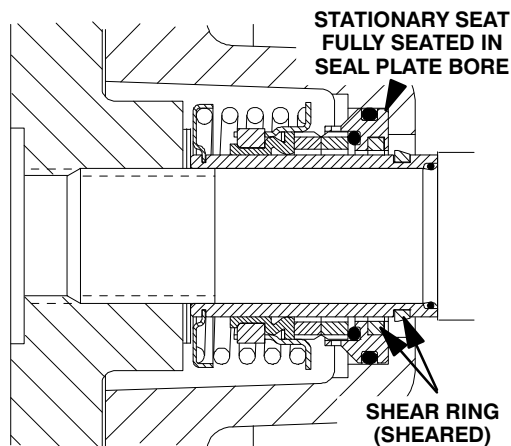

**Figure 10. Seal Partially Installed**
set of impeller shims (2) provided with the seal, and screw the impeller onto the shaft until it is seated against the seal (see Figure 10).